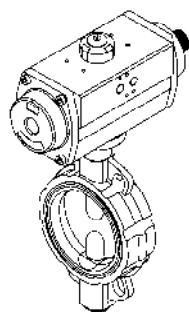
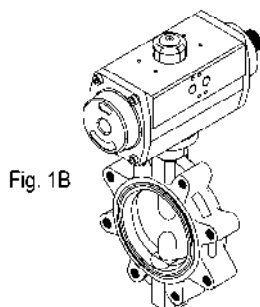
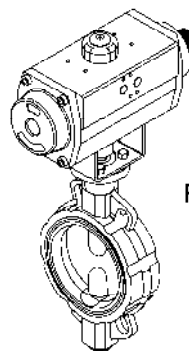
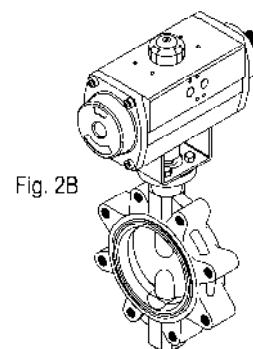

Fig. 1A
Fig. 1B
Fig. 2A
Fig. 2B
- Mounting of the actuator on the valve can be carried out directly (figures 1A and 1B) or by using a mounting bracket (figures 2A and 2B).
## Mounting the actuator directly on the valve (Fig. 1A and Fig. 1B)
## Mounting the actuator on the valve by using a mounting bracket (Fig. 2A and Fig. 2B)